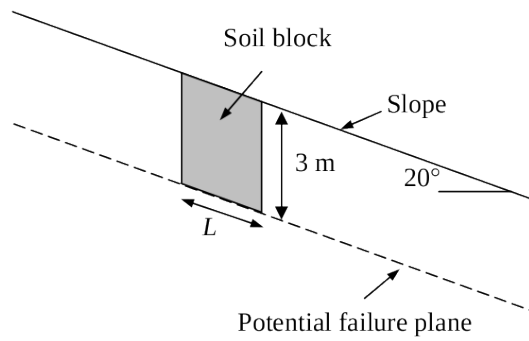

Fig. 1
2. A consolidated-drained (CD) triaxial test is performed at an effective confining pressure of 100 kPa. A deviatoric stress of 20 kPa is applied. The resulting axial strain during the application of deviatoric stress is 0.08 % and the resulting volumetric strain is 0.04%. From these results and assuming isotropic linear elasticity, compute the radial strain and develop estimates of the shear modulus (G), bulk modulus (K), Poisson's ratio (ν), and Young's modulus (E) of the soil.
3. The stability of a sandy slope is a concern. The angle of the slope is 20 degrees. Since the length of the slope is long, it is assumed that it is infinitely long as shown in Fig. 1. The dry unit weight of the sand is $\gamma_d = 16 \text{ kN/m}^3$, whereas the saturated unit weight is $\gamma_s = 18 \text{ kN/m}^3$.
A potential failure plane was found at 3 m depth as shown in Fig. 1. The peak friction angle of the sand at this location is 40 degrees. For the stability analysis of the infinite slope, forces acting on a soil block as shown in Fig. 1 are considered.